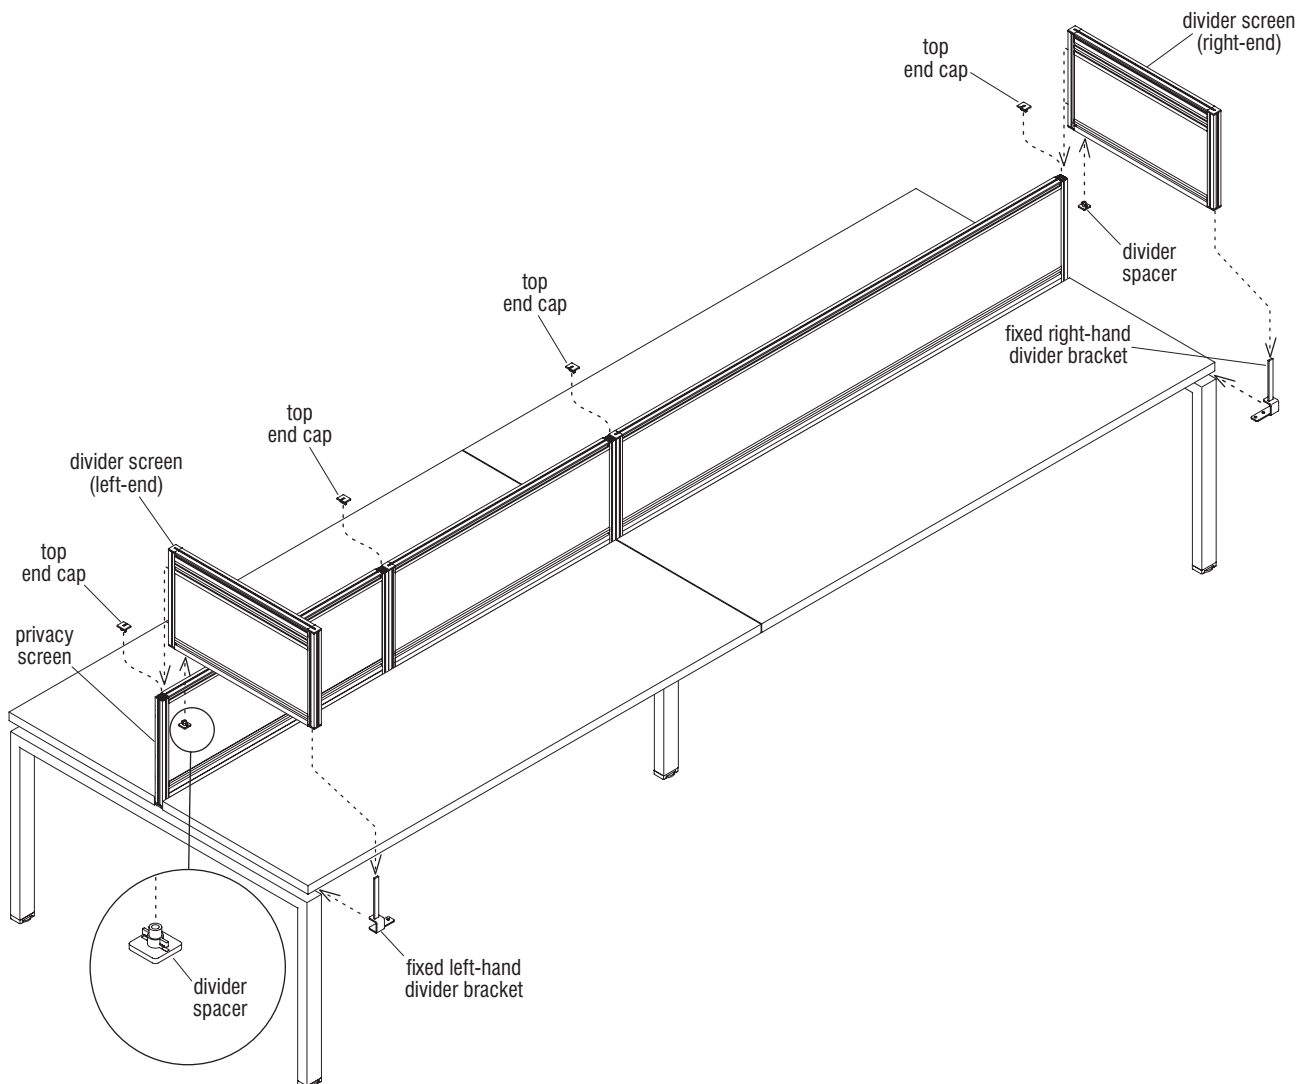

Figure 4 - Dual-Sided Benching, Fixed End Divider Screen Installation
1. Prepare **left-end divider screen(s)** for installation by first making sure that the top end cap is removed from the privacy screen where the end divider will install. Next, locate a "divider spacer," position it into the horizontal T-slot at the underside of the divider screen near the back and twist the spacer 90° to lock it in position (Figure 4).
2. Locate and orient a "fixed left-hand divider bracket" as shown and slide it onto the front edge of the worksurface where the divider screen will install (Figure 4).
3. Position the left-end divider screen at the end such that the attachment screw heads at the back nest into the vertical slot in the privacy screen and slide the divider screen down such that the front also slides into the bayonet of the fixed left-hand divider bracket (Figure 4).
4. Align the end divider straight with the worksurface side and tighten the set screws at the underside of the fixed left-hand divider bracket. Only tighten the set screws so the tops of the set screws are flush with the bracket face. Finally, replace the top end cap removed in step one. Repeat process following steps 1 through 4 for right-end divider screen using a "Fixed right-hand divider bracket" (Figure 4).